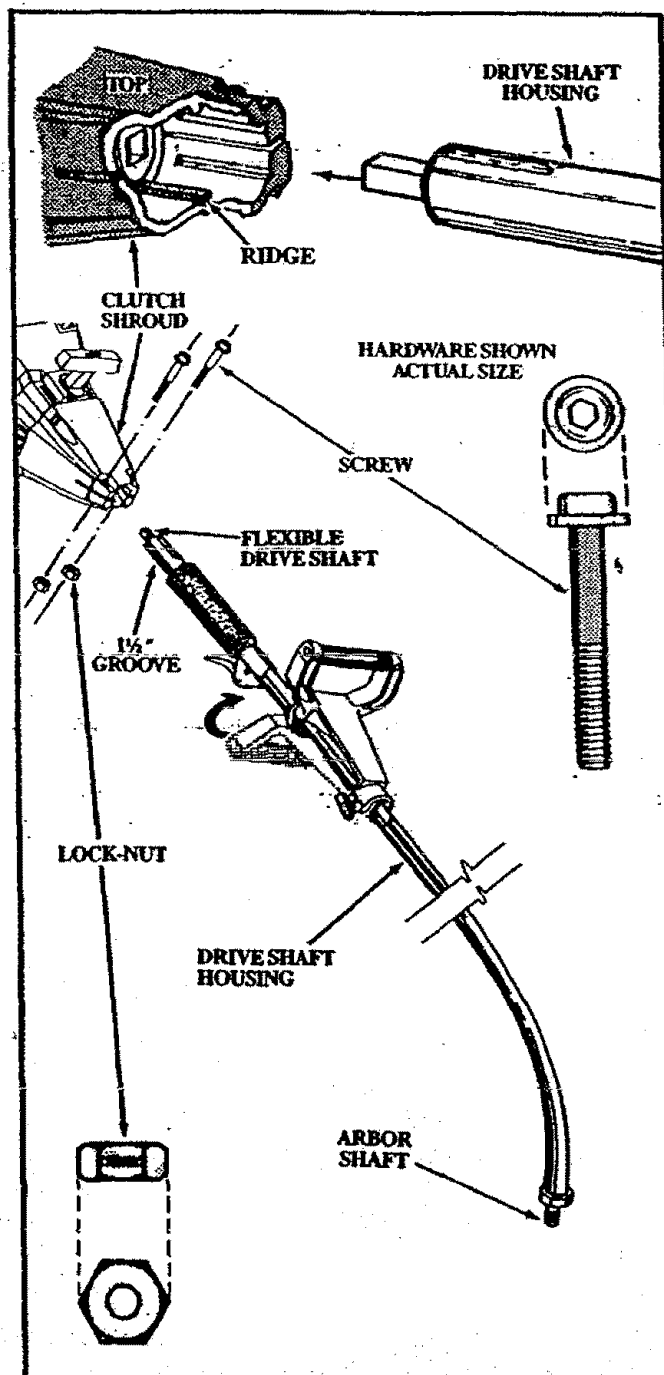

Figure 1
### 1. DRIVESHAFT HOUSING -- Figure 1
- Place the two Screws (from the loose parts bag) into the holes on the Clutch Shroud as shown in Figure 1.
- Turn Handle around and position the Drive Shaft Housing with the Arbor Shaft down as shown in Figure 1.
- Firmly push the Drive Shaft Housing into the Clutch Shroud until it contacts the Foam Grip or is within 1/8 inch. Figure 1.